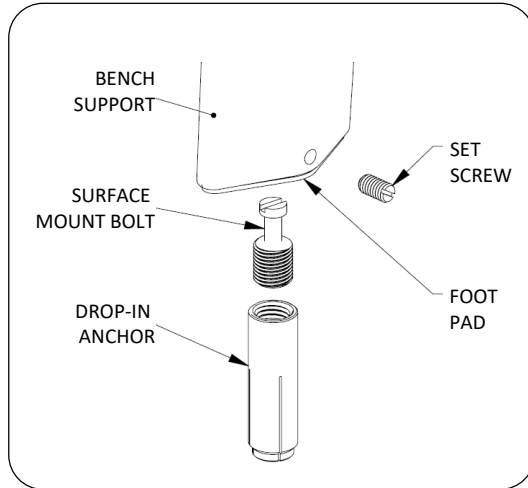
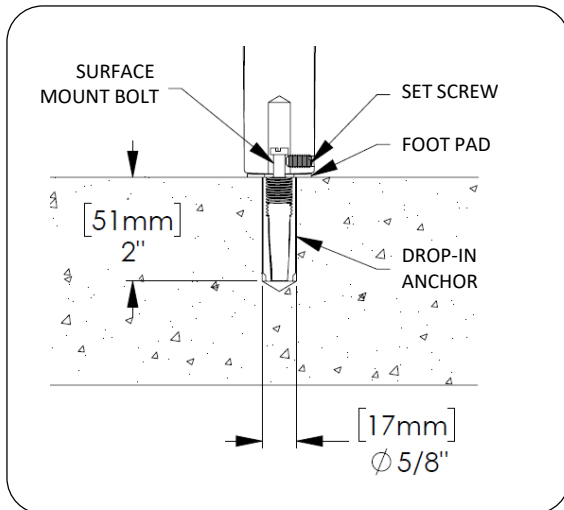

Fig. 4 – Surface mount install detail
Fig. 5 – Surface mount bolt section view
6. Drill holes according to Fig. 5.
11. Install set screws as shown in Fig. 4 and Fig. 5.